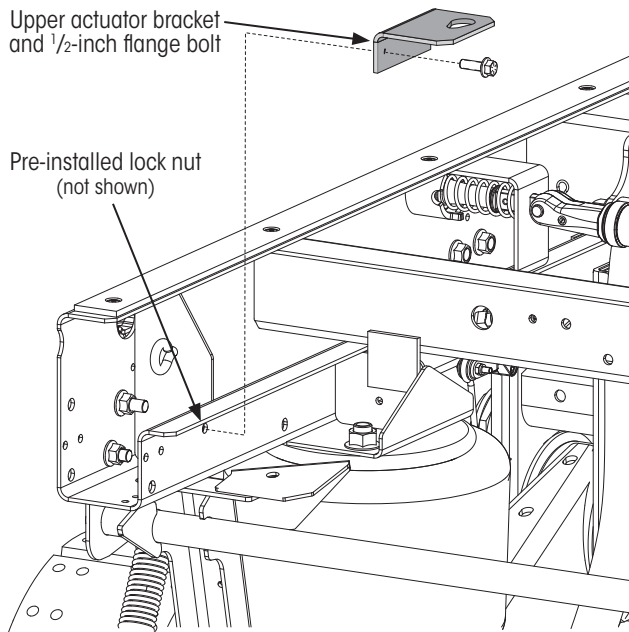

Figure 15: Installing actuator bracket
**NOTICE:** Prior to December 2015, the SURELOK actuator upper mounting bracket included two mounting holes. In Figure 15, the forward actuator bracket fastener has been excluded. If exists, the front mounting bolt is to be left vacant. If present on a pre-existing installation, remove and discard this bolt. DO NOT reuse.
1. Install upper actuator bracket (Figure 15) using only one 1/2-inch flange bolt and nut as shown.